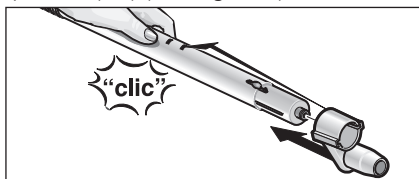

Figure 4: Attaching the parking devices
- Insert the parking device (G4) on the lower extension tube until it locks into place in the aperture (G2) (see Figure 4).